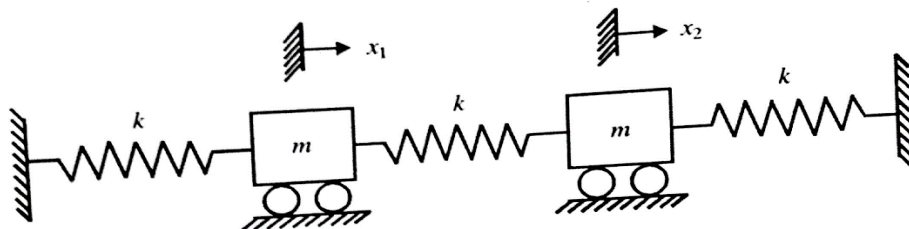

Figure 8
b) Consider the underdamped, 2 - d.o.f. system shown in figure 8. Find the response of the system when the first mass alone is given an initial displacement of unity and released from rest. [5+10]